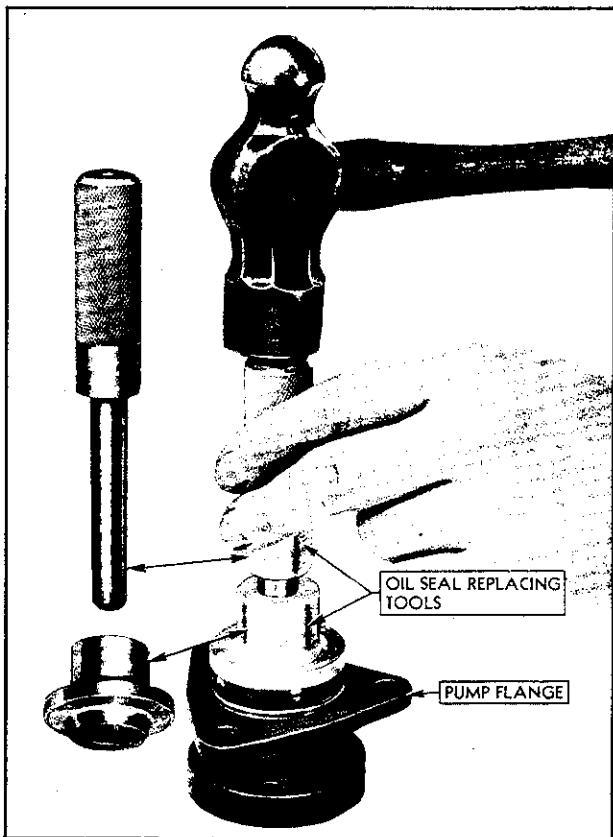

Fig. 41—Installing Inner Oil Seal in Fuel Pump Flange with Tool J-1508-2.
- (c) Position inner oil seal with leather pointed away from pump body; then reverse driver head on seal and drive seal into position, as shown in Fig. 41. The short end of the driver head will locate this seal the proper distance from the outer seal, which was first driven into the flange.